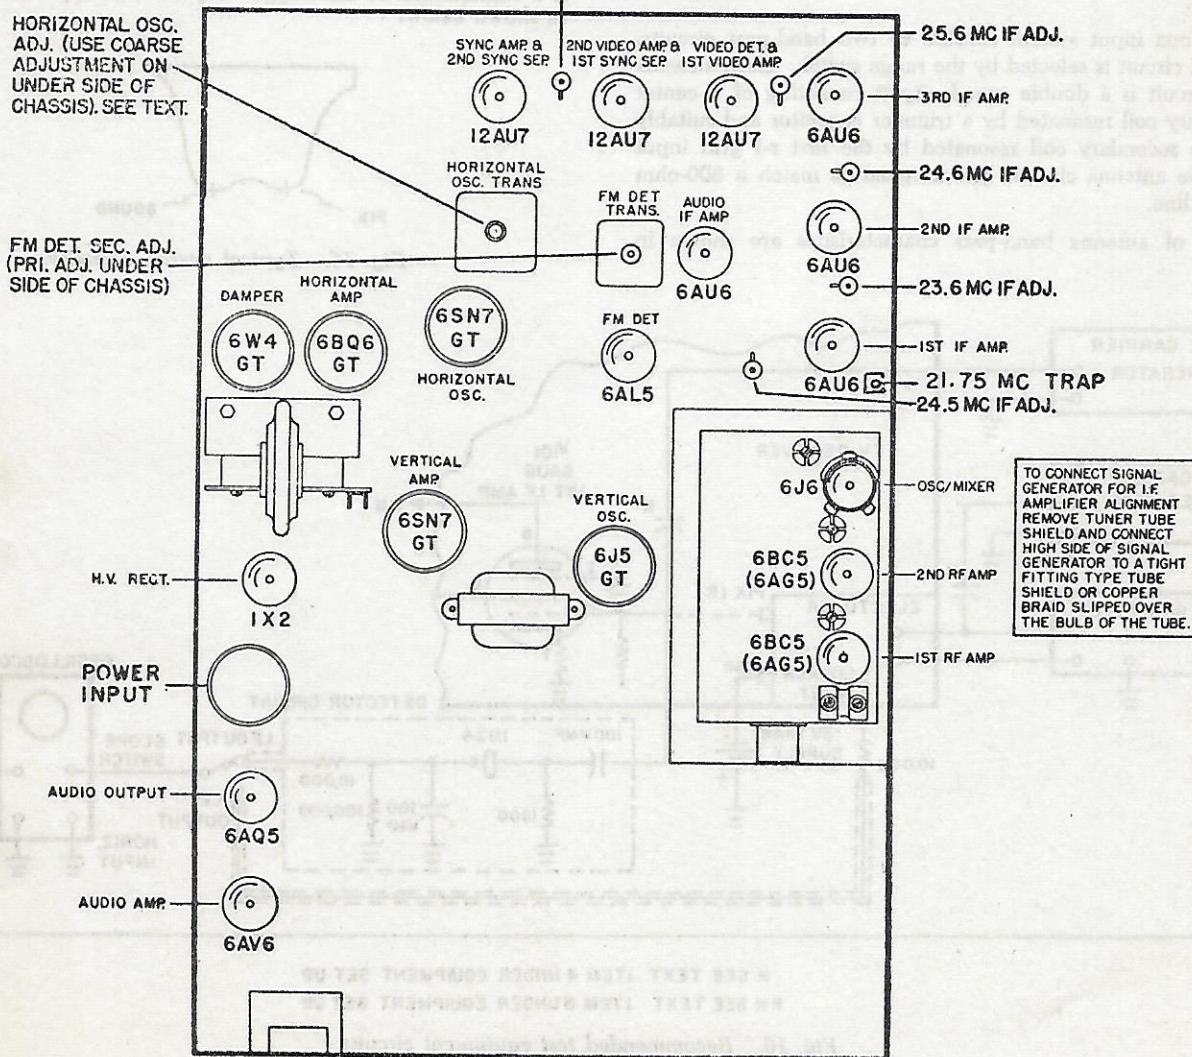

Fig. 11. Top view, i-f amplifier alignment points.
1. Set the HORIZONTAL and VERTICAL HOLD controls for a steady test pattern. Should the HORIZONTAL HOLD control fail to hold the test pattern in the normal manner, set the HORIZONTAL HOLD control in the center of its range and adjust the HORIZONTAL OSC. ADJ. screw on the under side of the chassis or horizontal sync. (See Fig. 11 for location.) If the adjustment of the top slug has been tampered with, turn the top screw to its top limit and adjust the bottom slug for sync.
3. With the signal generator (unmodulated) set at 4.5 mc. set the 4.5 MC LIMITER GRID ADJ. and FM DET PRI. ADJ. (See Fig. 11) for maximum d-c voltage as measured by the electronic voltmeter. Adjust the limiter grid transformer (T-105) before adjusting the f-m detector transformer (T-108) primary. Use just enough signal generator output to obtain approximately one volt at the electronic voltmeter.
6. After completing the alignment procedure and placing the receiver in operation again, carefully tune in a TV test pattern and adjust the 4.5 MC TRAP ADJ. for maximum vertical wedge definition. This adjustment is located on the under side of the chassis and on the same coil form as the 4.5 MC LIMITER GRID ADJ. shown in Fig. 11.